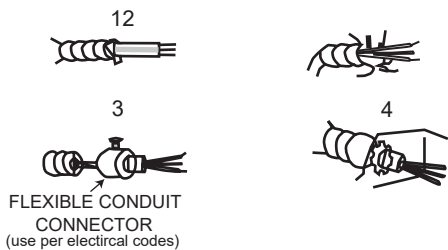

Figure 6
2. Attach flexible cable through a knock-out in the side of the heater following NEC and local codes, See Figure 6 and SPECIFICATIONS for recommended wiring and circuit breakers.
- NOTE:** For certain applications, conduit may be required(See Figure 6). Check local electrical codes. If you run the wiring in conduit and wish to be able to turn the heater be sure to purchase enough flexible conduit to allow the heater to be turned.